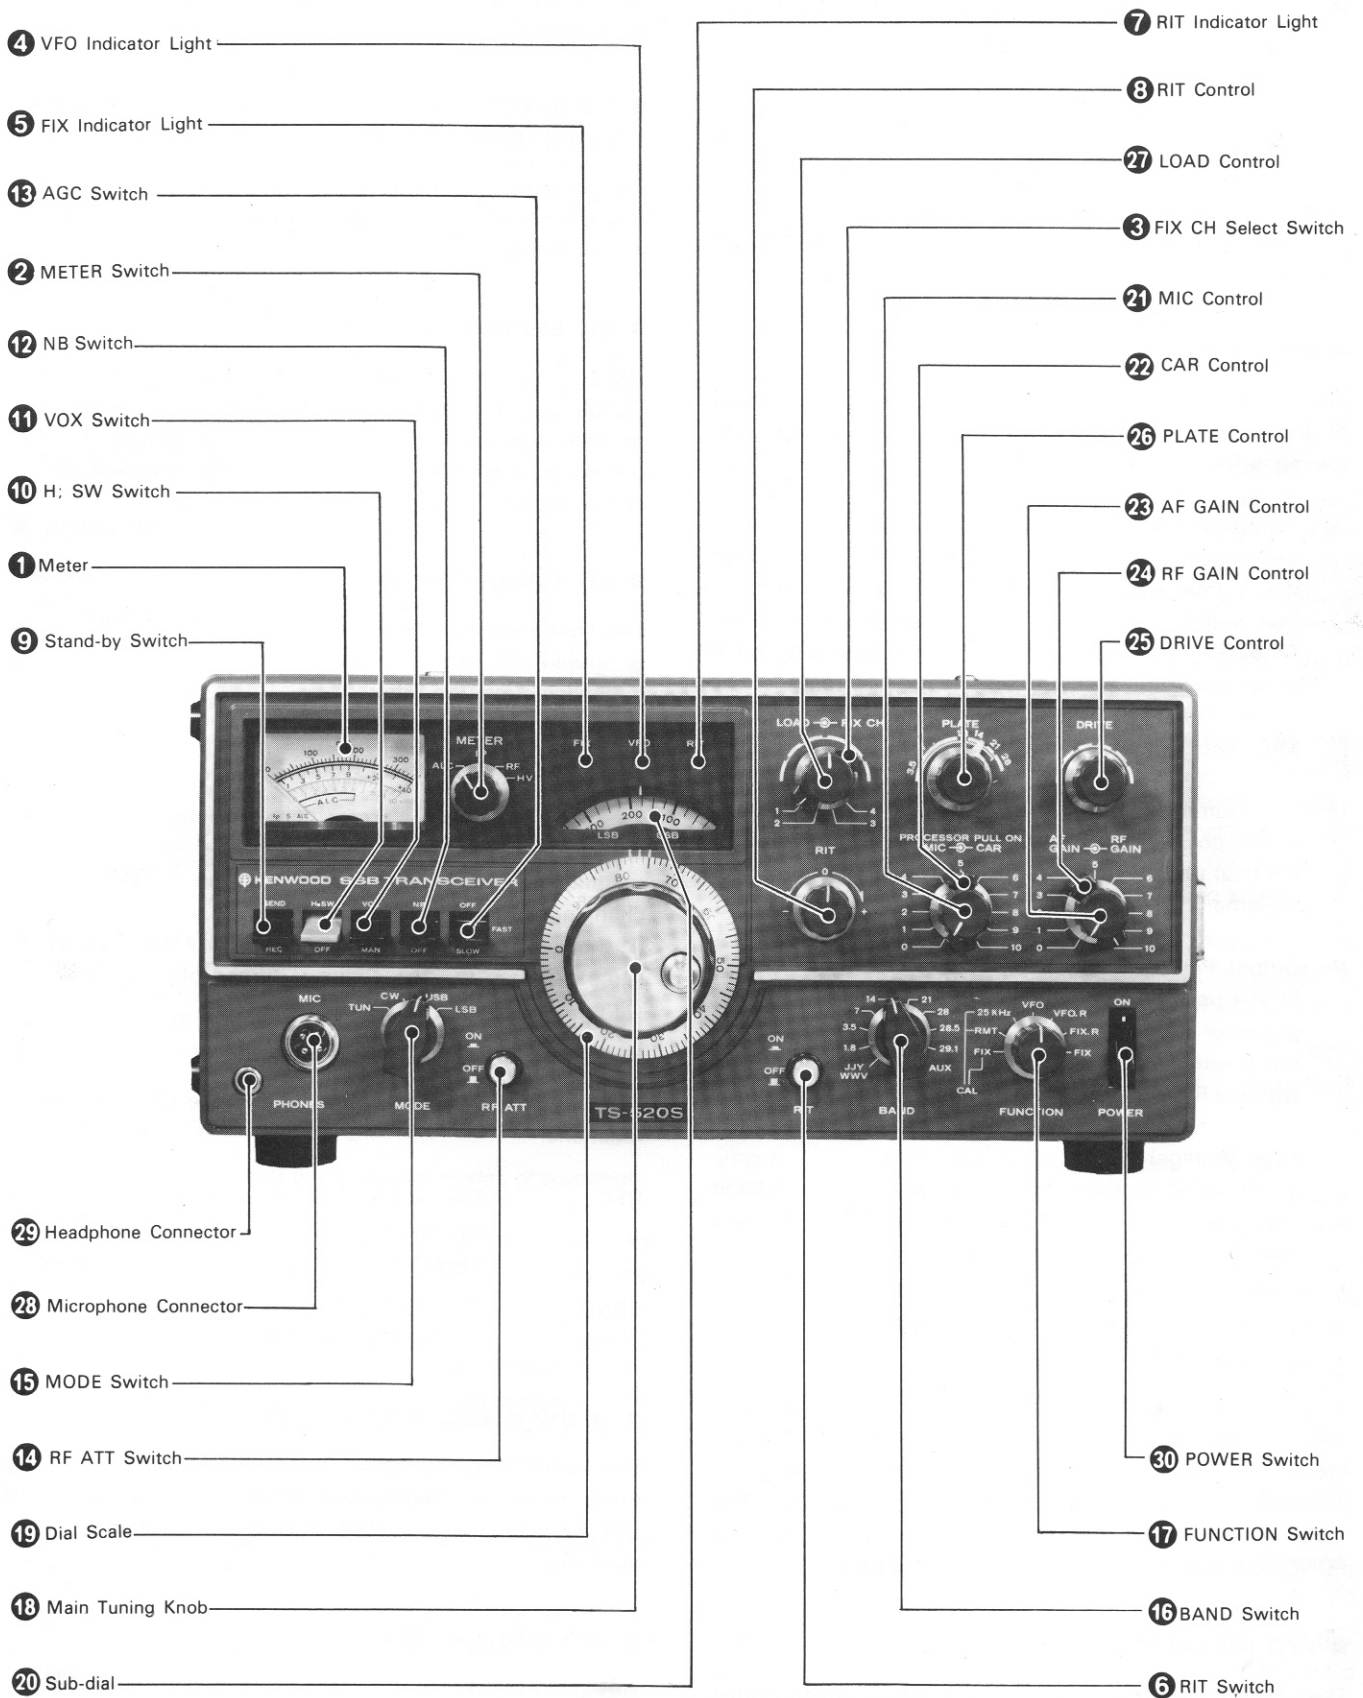

Fig. 5 Front Panel Controls
### 3.1 FRONT PANEL CONTROLS (See Figure 5)
#### ■ METER (1 on Figure 5)
#### ■ METER SWITCH (2 on Figure 5)
#### ■ CH. (FIXED CHANNEL) SELECT SWITCH (3 on Figure 5)
#### ■ VFO INDICATOR LIGHT (4 on Figure 5)
#### ■ FIX (FIXED CHANNEL OPERATION) INDICATOR LIGHT (5 on Figure 5)
#### ■ RIT SWITCH (6 on Figure 5)
#### ■ RIT INDICATOR (7 on Figure 5)
#### ■ RIT CONTROL (8 on Figure 5)
#### ■ STAND-BY SWITCH (9 on Figure 5)
#### ■ H. SW (Heater) SWITCH (10 on Figure 5)
#### ■ VOX SWITCH (11 on Figure 5)
■ **NB SWITCH** (12 on Figure 5)
■ **AGC SWITCH** (13 on Figure 5)
■ **RF ATT SWITCH** (14 on Figure 5)
■ **MODE SWITCH** (15 on Figure 5)
■ **BAND SWITCH** (16 on Figure 5)
■ **FUNCTION SWITCH** (17 on Figure 5)
■ **MAIN TUNING KNOB** (18 on Figure 5)
■ **DIAL SCALE** (19 on Figure 5)
■ **SUB-DIAL** (20 on Figure 5)
(21 on Figure 5)
■ **CAR CONTROL** (22 on Figure 5)
■ **AF GAIN CONTROL** (23 on Figure 5)
■ **RF GAIN CONTROL** (24 on Figure 5)
■ **DRIVE CONTROL** (25 on Figure 5)
■ **PLATE CONTROL** (26 on Figure 5)
■ **LOAD CONTROL** (27 on Figure 5)
■ **MIC CONNECTOR** (28 on Figure 5)
■ **PHONES JACK** (29 on Figure 5)